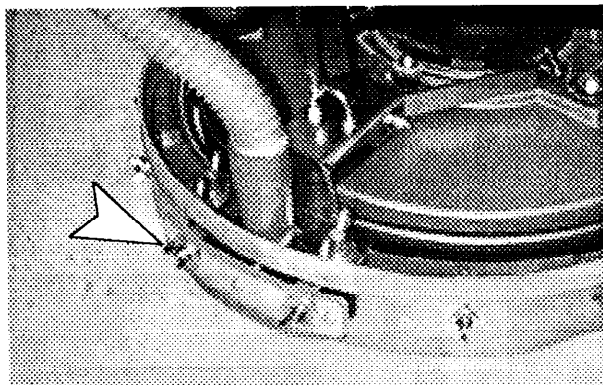

FIG. 27.
- a. Loosen the two (2) wing nuts on the adjustment plate.
- b. Push the squeegee adjustment plate DOWN across the full length, until it works properly. Tighten the wing nuts. (Figure 27)
- a. Loosen the two (2) wing nuts on the squeegee adjustment plate. (Figure 27)